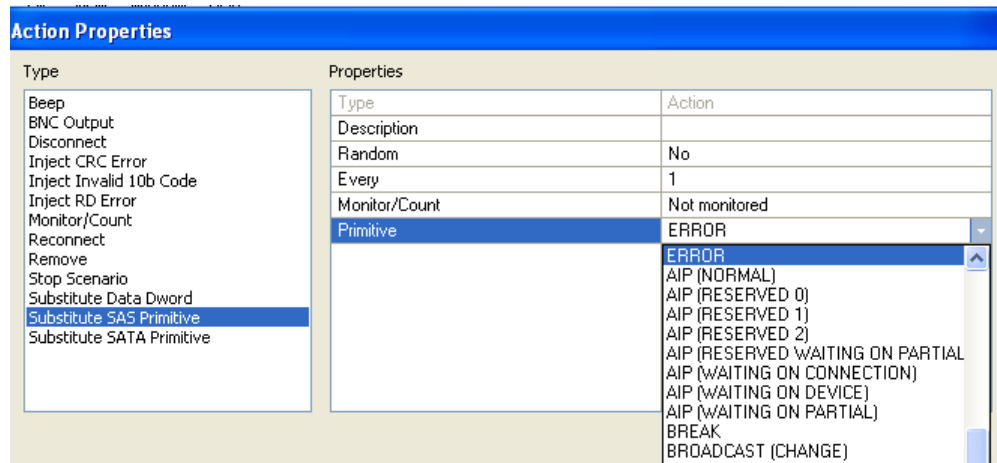

Figure 5.14 Example 2: Action Drop-Down List
- Step 7** Still in the middle column of the Event Properties dialog box, click on **Primitive** to bring up a drop-down menu that lets you choose the type of primitive to substitute for RRDY (Normal) (Figure 5.14). Choose **ERROR**.
Note: In this example, you set the substitution action to happen at every occurrence of an RRDY (Normal) (as shown in Figure 5.14, the action is set for every occurrence). However, you can set an action to happen at other multiples of event occurrence (for example 5, 25, 1000 and so on). You also can set the action to happen at random, within a specified number of event occurrences.